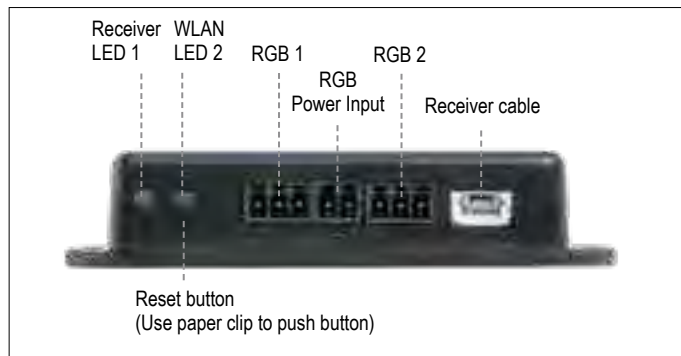

Figure 24: myfire Wi-Fi Box (B6R-W2...)
LED INDICATION ON MYFIRE WI-FI BOX (see figure 24, page 23)
- Multiple users on the same Wi-Fi channel may interfere with the data transfer. Press reset button on the myfire Wi-Fi Box for 1 second to change current channel (see figure 24, page 23).